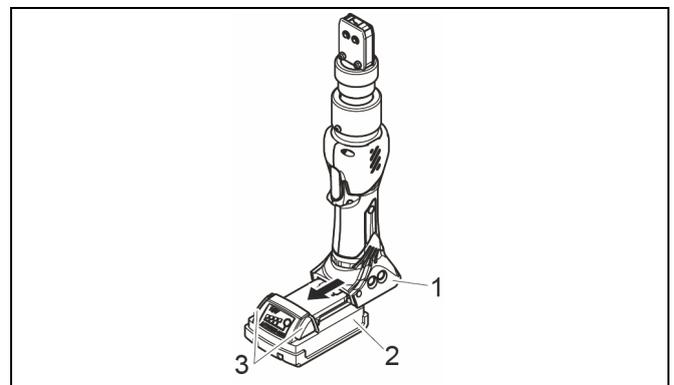

Fig. 18: Removing battery
- ▶ Press buttons (Fig. 18/3) and pull battery (Fig. 18/2) out of clamp pincer CP 10 / CP 20 / CC 20 (Fig. 18/1).